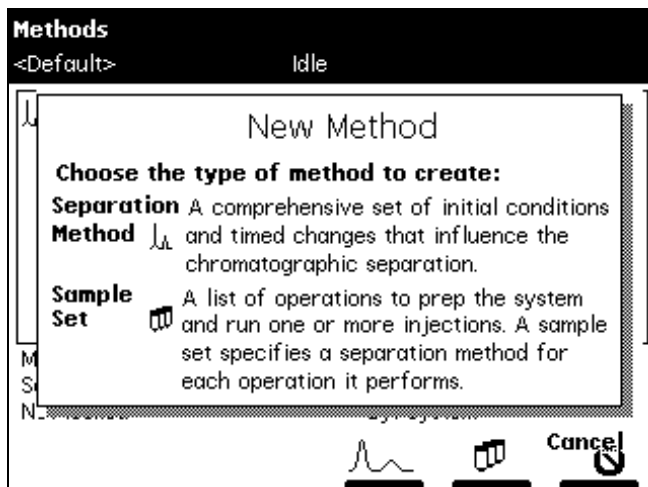

Figure 5-2 New Method Dialog Box
2. Press the **New** screen key. The New Method dialog box appears (Figure 5-2).